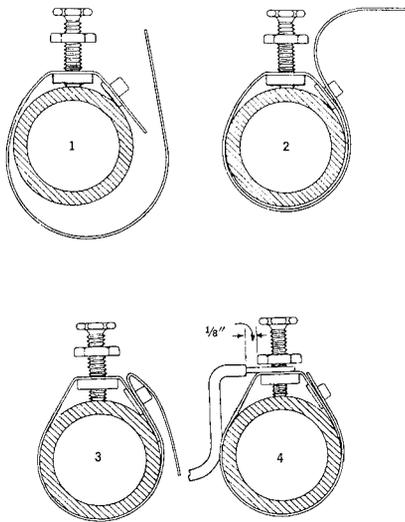

Fig. 21 — Station Ground Clamp Installation
**5.14** The ground clamp (Fig. 21) should be located at an accessible point where it will not be subject to excessive movement or vibration and where it will least likely be damaged by plum-